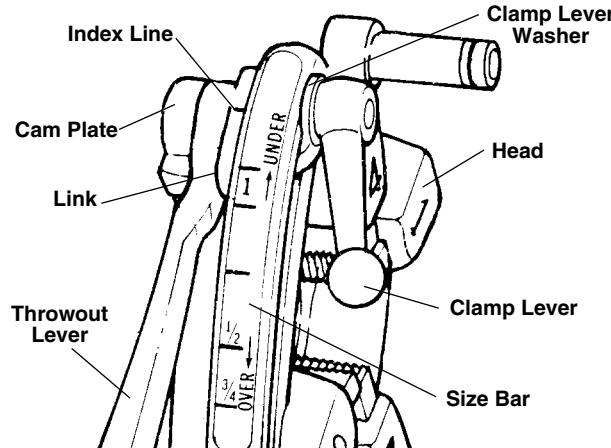

Figure 8 – No. 610 Quick-Opening Die Head
The 610 quick-opening die head (*Figure 8*) uses one set of dies for $\frac{1}{2}$ " and $\frac{3}{4}$ " threads and another set for 1" threads. Dies are available for NPT and BSPT thread forms.
4. If the thread is too large (ring gauge will not thread on far enough) adjust the die head size bar slightly toward the UNDER marking (See Figure 8). If the thread is too small (ring gauge threads too far onto the thread) adjust the die head size bar slightly toward the OVER marking (See Figure 8).